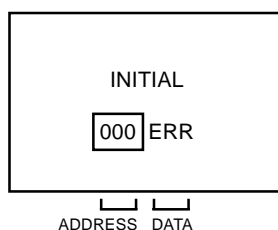

Fig. 2
3. Press both Channel button **(6)** on the remote control and the STOP button on the set for more than 2 seconds. ADDRESS and DATA will appear on TV Monitor as **Fig 2** and the ADDRESS is now selected.